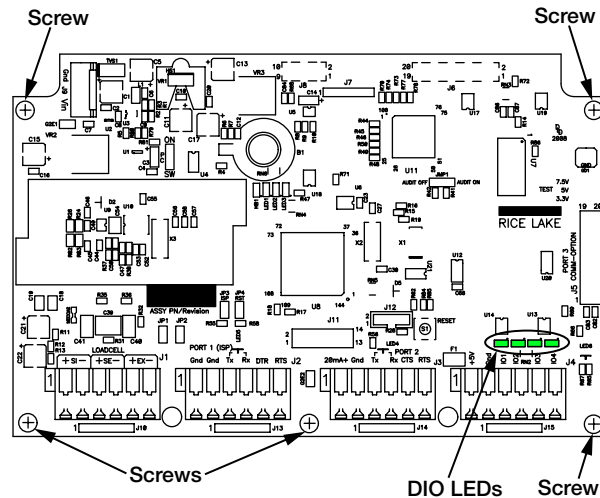

Figure 2-4. Digital I/O lights and screw locations
The Digital I/O can be configured as either digital inputs or digital outputs as determined by the DIO menu (see Section 3.4.4 on page 29). The inputs are active (on) with low voltage (0 VDC) and can be driven by TTL or 5V logic without additional hardware. Use the DIG I/O menu (see Section 3.4.4 on page 29) to configure the digital inputs. LEDs on the CPU board light when digital inputs are active (see Figure 2-4).
Digital outputs are typically used to control relays that drive other equipment. Outputs are designed to sink not source, switching current. Each output is a CMOS circuit, capable of sinking 24 mA when active. Digital outputs are wired to switch relays when the digital output is active (low, 0 VDC) with reference to 5 VDC supply. LEDs on the CPU board light up when the digital outputs are active (see Figure 2-4).
4. There are two boards: the CPU board and the keypad display board. Remove the five screws connecting the CPU board (see Figure 2-4), then lift the board out of the enclosure.